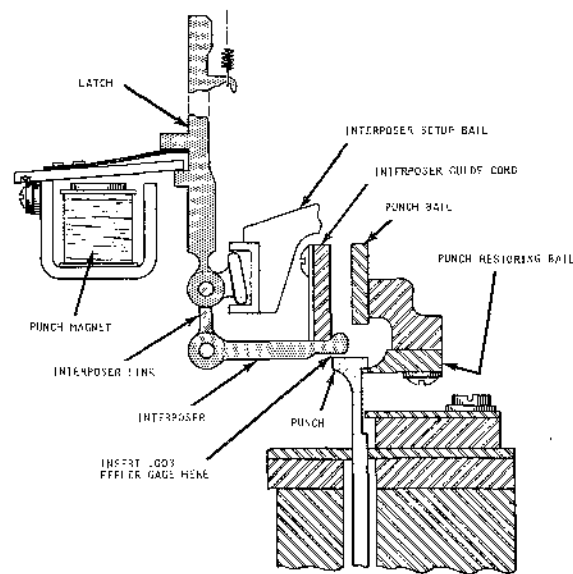

Figure 47. Interposer Guide Comb Adjustment
The interposer bail is a U-shaped channel. A projection on each of the 80 interposer links ride in the channel (Figure 47). As the interposer setup bail moves down, all the interposer links move down, carrying with them the 80 latches. This pulls each armature against its yoke. If punching is to take place, the magnet is energized at this time. Because the armature did not have to be attracted electrically, very low current is required to keep the armature sealed against its yoke. For this reason the unit is sometimes referred to as a "no-work" punch unit.
b. Check for .003" interposer to punch clearance (Figure 47).
a. With the punch magnet de-energized, insert a .003" feeler gage between the punch and interposer (Figure 47).